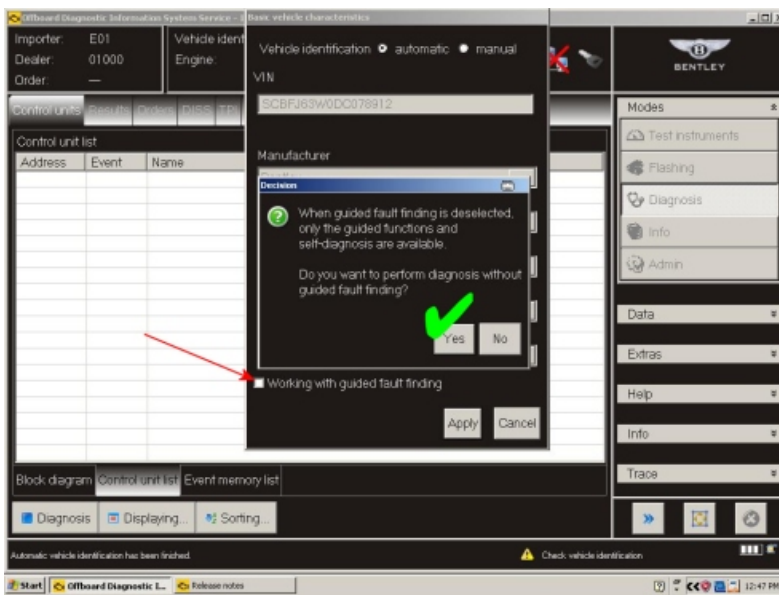

Figure 1
3. De-select *Working with guided fault finding* (see Figure 1)